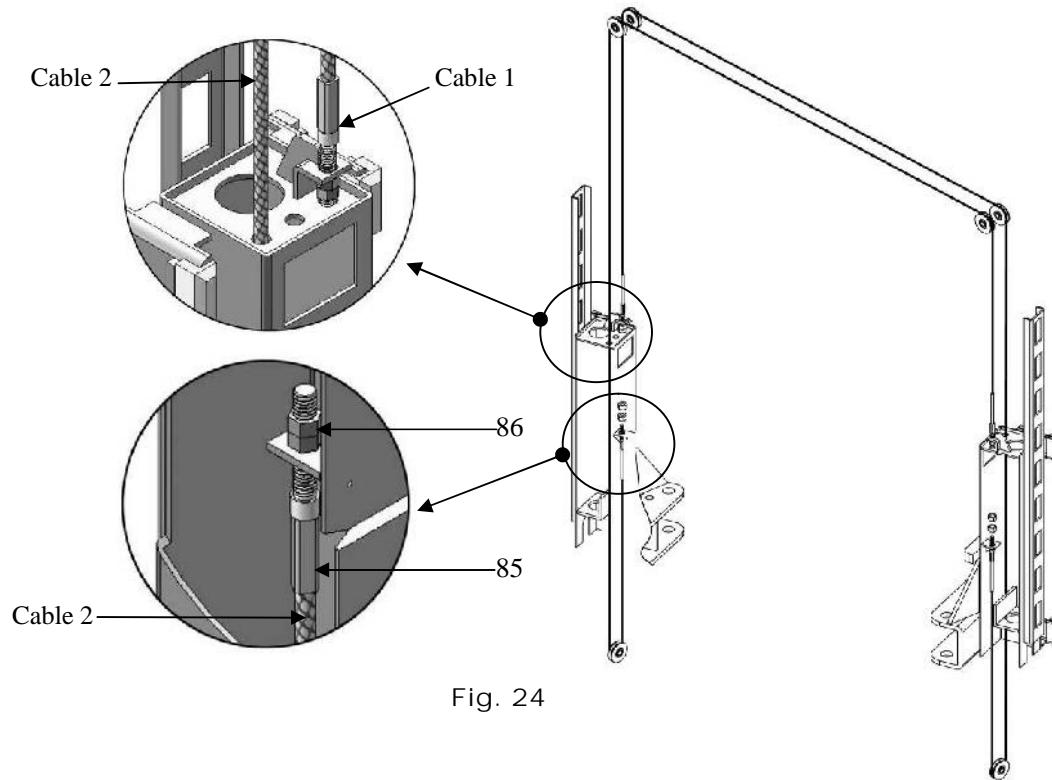

Fig. 24
2. Connecting Cable for high setting (See Fig. 24).